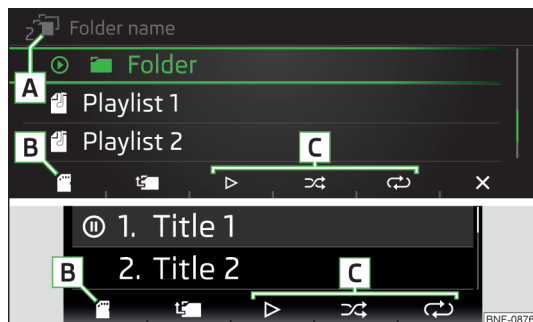

Fig. 104
Folder/track list » Fig. 104
- To **select the audio source in the folder / track list** the function button **⏮** repeatedly until the display on the position **B** » Fig. 104 on page 78 **🎵** is displayed.